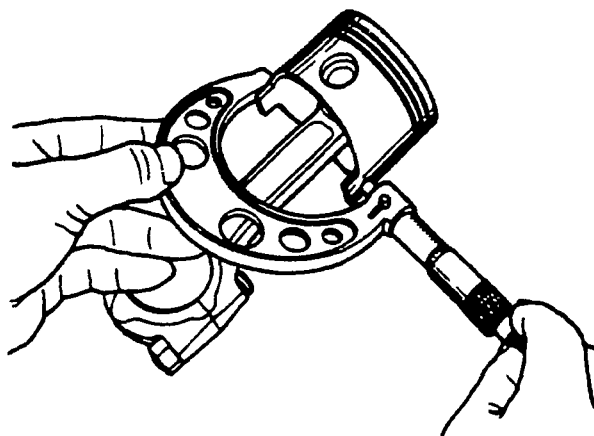

FIGURE 9-66. MEASURING PISTON O.D.
- A. Measure the outside diameter of each piston at the skirt and across the thrust faces. The outside diameter of the piston should be checked at a point 0.59 inch (15 mm) above the bottom of the piston across the thrust faces (Figure 9-66).